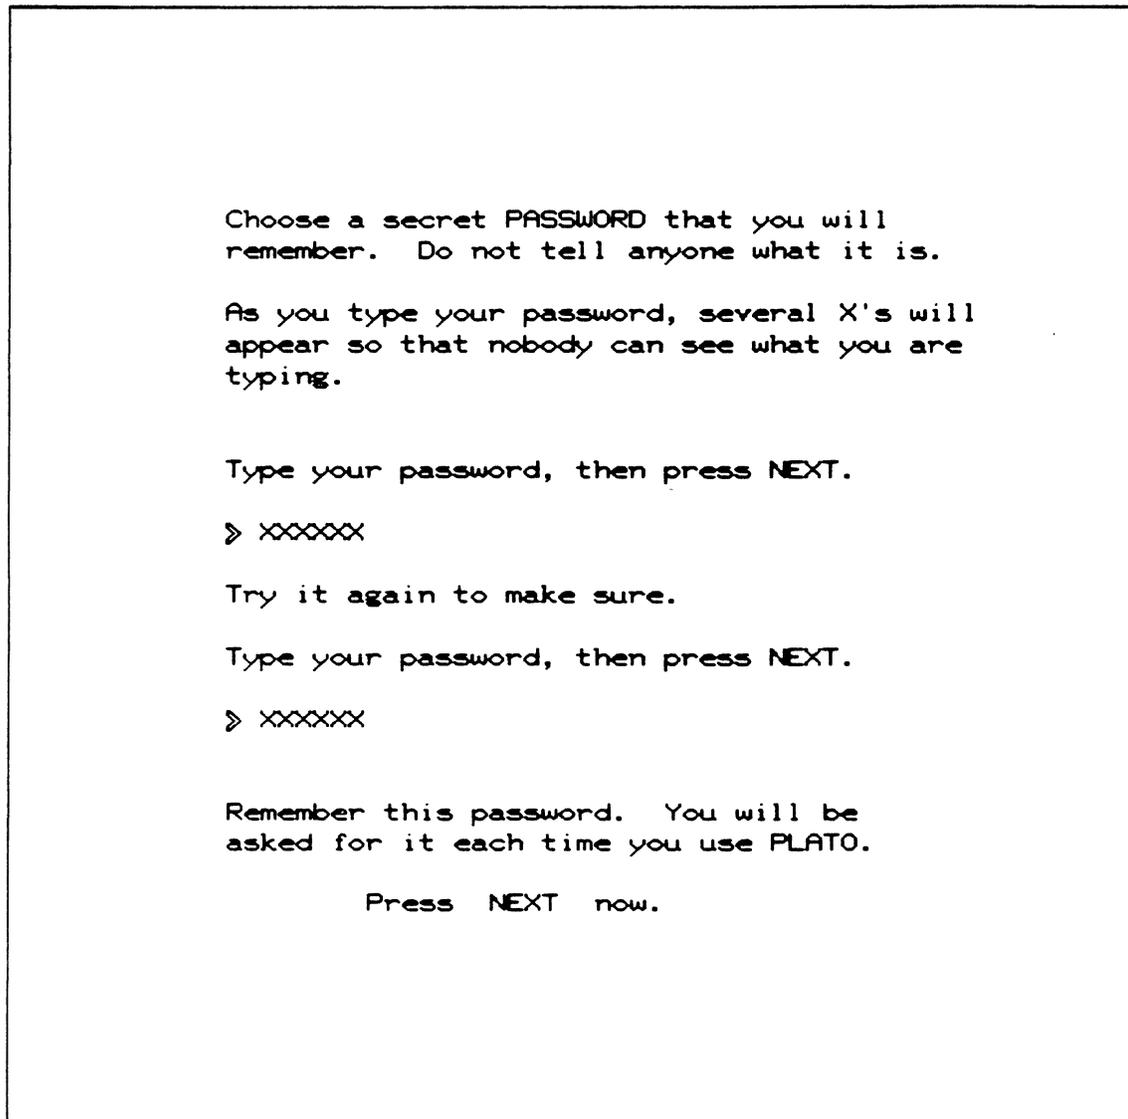

Figure B-4. Password Repeat
9. Press the NEXT key. If this is the first time you have signed on to this course, you will be asked to enter your password again (figure B-4). Enter it again, just as you did before. From this point on you will be required to enter your password only once when you sign on.